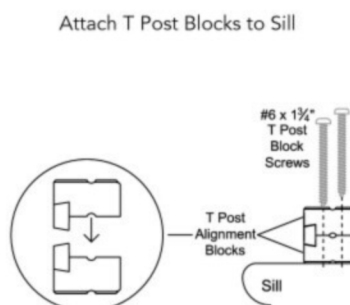

Fig. 8.2
- Stack two T Post Alignment Blocks, one with the tab facing up and one with the tab facing down. (See Fig. 8.2)